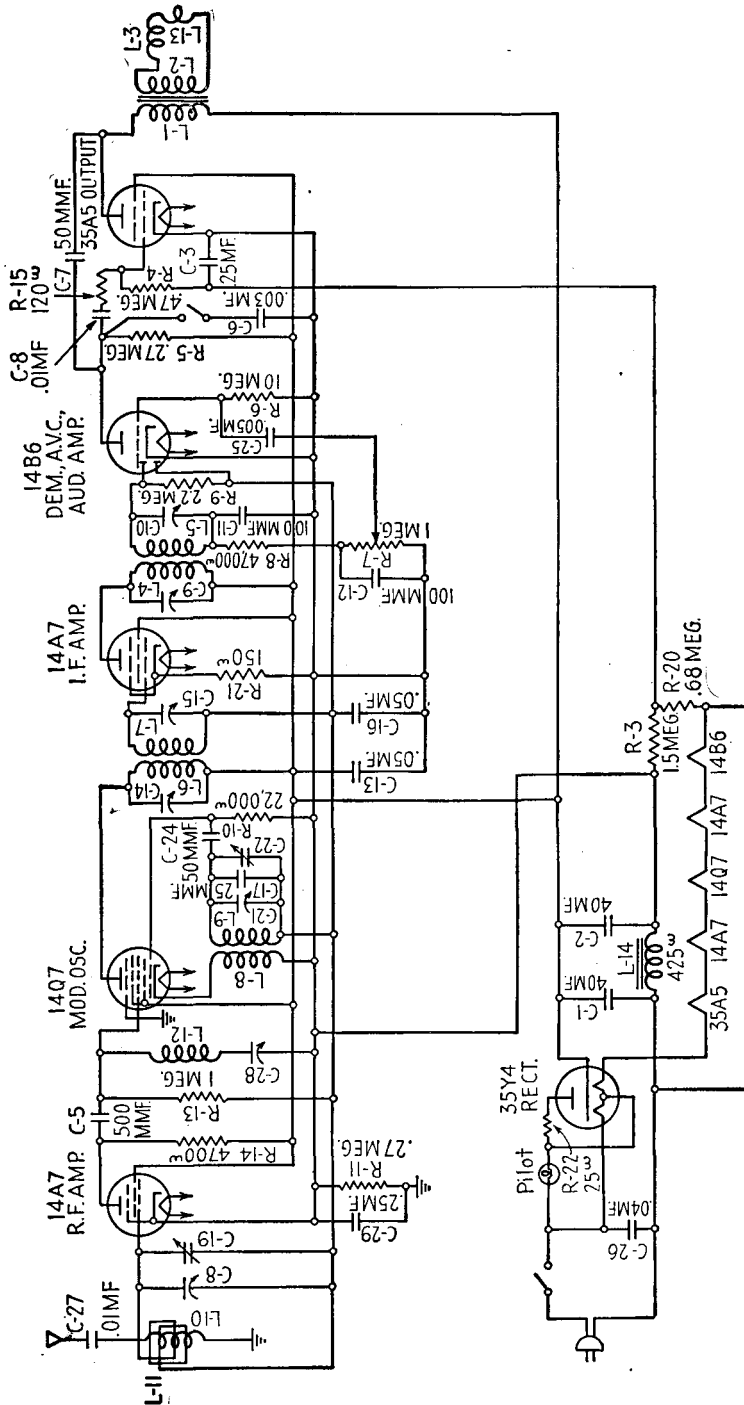

Fig. 16-10.—Schematic diagram of the Stromberg-Carlson No. 1000 receiver.
In loop receivers, the trap is usually placed in the converter signal grid circuit, where it serves a similar purpose by providing a low-impedance path to ground for signals at the intermediate frequency, which may be present in the converter signal grid circuit. Coil $L-12$ and condenser $C-28$ make up this type of wave trap in the receiver of Fig. 16-10.
RF Stage Followed by an Untuned Converter.—Many receivers employ an RF stage that is resistance-coupled to the converter signal grid. This arrangement gives the receiver some of the advantages of an RF stage while using only two tuned circuits: the RF grid and the oscillator. The Stromberg-Carlson No. 1000 receiver shown in Fig. 16-10 uses this type of circuit.
The coupling between the RF and the converter tubes consists of RF plate load *R*-14, coupling condenser *C*-5, and converter signal grid load *R*-13. The circuit composed of *L*-12 and *C*-28 in the converter signal grid is a wave trap tuned to the intermediate frequency of the receiver. Similar circuits in other receivers use different values for the components in the resistance-coupling circuit. The plate load varies from 5,000 to 10,000 ohms. The coupling condenser varies from 0.0001 to 0.0005 mfd. The grid-load resistor is often smaller than the one shown in the diagram, 25,000 to 100,000 ohms being more usual. Another circuit difference is that some receivers bring the grid-load resistor to ground or common negative rather than to the AVC bus, as shown in Fig. 16-10.
4. The receiver of Fig. 16-10 gives poor reception in the customer's home although it operates normally on the service bench. A long out door antenna was suggested and installed. The reception was greatly improved but the receiver is now troubled with code interference all over the tuning range. What is likely to be wrong and how should it be checked?